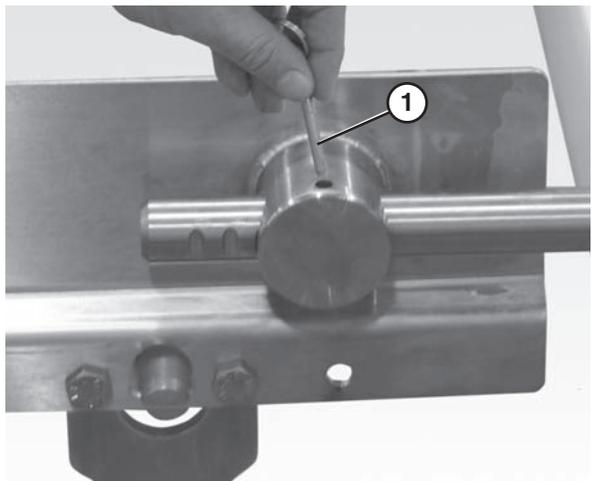

Figure 41
8. Insert the pull pins (**Figure 41, item 1**) on the tension end of the conveyor.